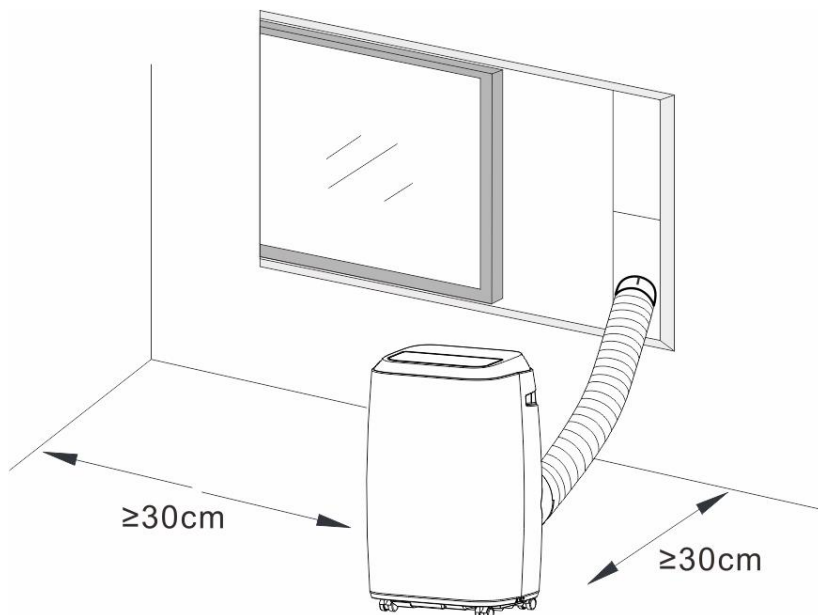

Fig.8
- The portable air-conditioner shall be installed on a flat surface with empty space all around. Don't block the air outlet, and the required distance around should be at least 30cm. (See Fig.8)